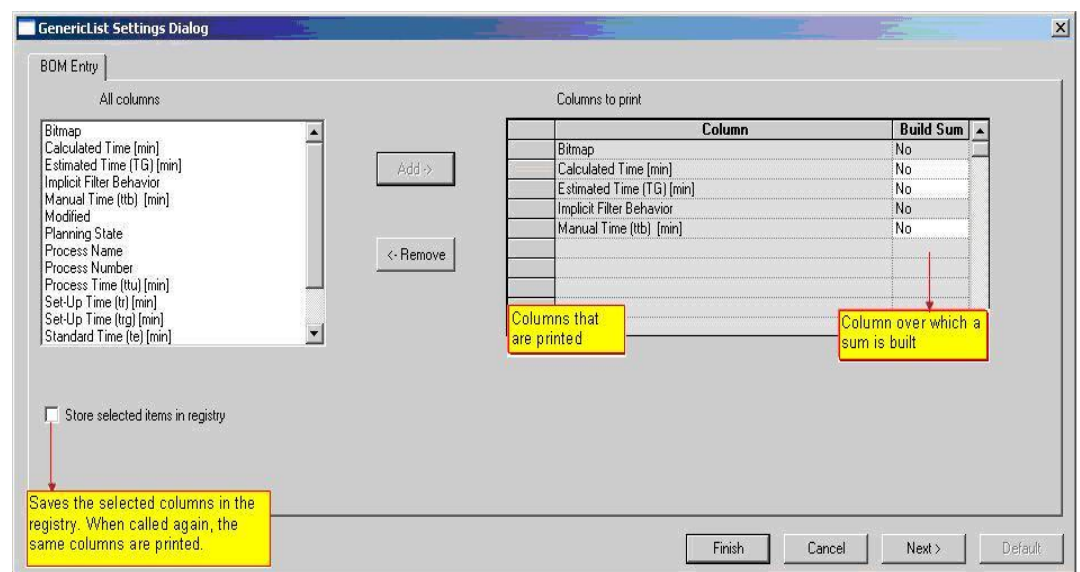

Figure 6: Dialog for Generating Generic List Forms
ta in the **Properties** dialog. Using **GenericList Settings** you can individually design your printout. *Please refer to the Figure 6.*
2) The **Generic List Settings** dialog opens. Here you can specify your output options. Please refer to the Figure 6.